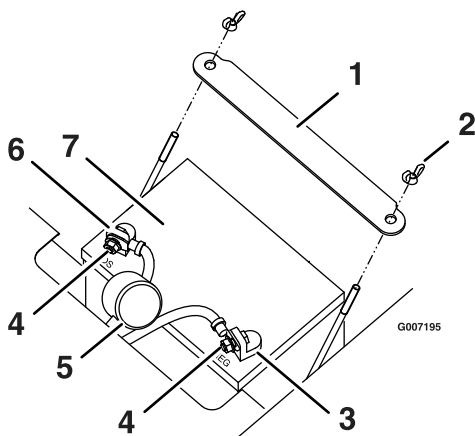

Figure 32
4. Disconnect the negative (black) ground cable from the battery post (Figure 32). Retain all fasteners.
6. Remove the battery hold-down (Figure 32) and lift the battery from the battery tray.
1. Position the battery in the tray with the terminal posts toward the operating position (Figure 32).
5. Secure the battery with the hold-down (Figure 32).